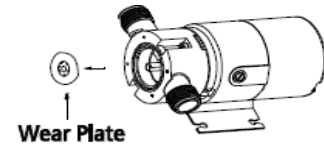

Figure 4 – Remove Wear Plate
- Remove the elliptical wear plate if worn (See Figure 4).